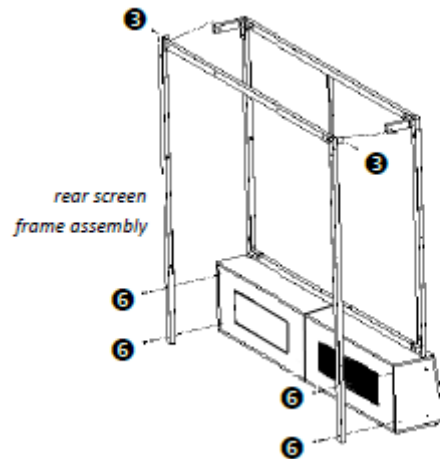

Figure 5: Screen Base Assembly with Rear Screen Assembly
1. Align holes at bottom of rear screen frame assembly posts with holes in rear of screen base. The perpendicular flaps on the rear screen frame assembly should be very near the cross joiners. See Figure 5.
2. Affix two ⑥ bolts through each post into the screen base. Do not tighten bolts.
4. Insert ③ bolt through flap into cross joiner. Do not tighten.